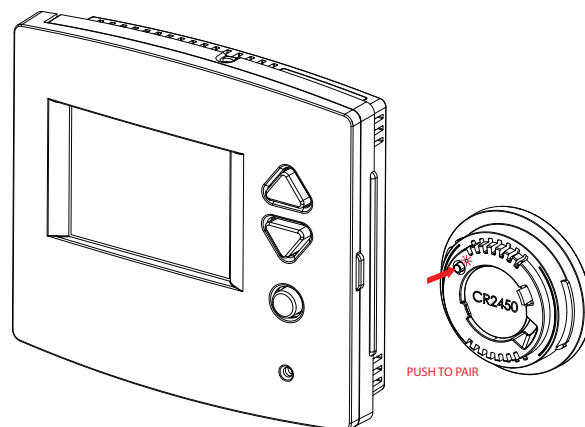

fig. 2
2. Press and hold the Pair Button on the sensor for 1 second, Fig. 2.